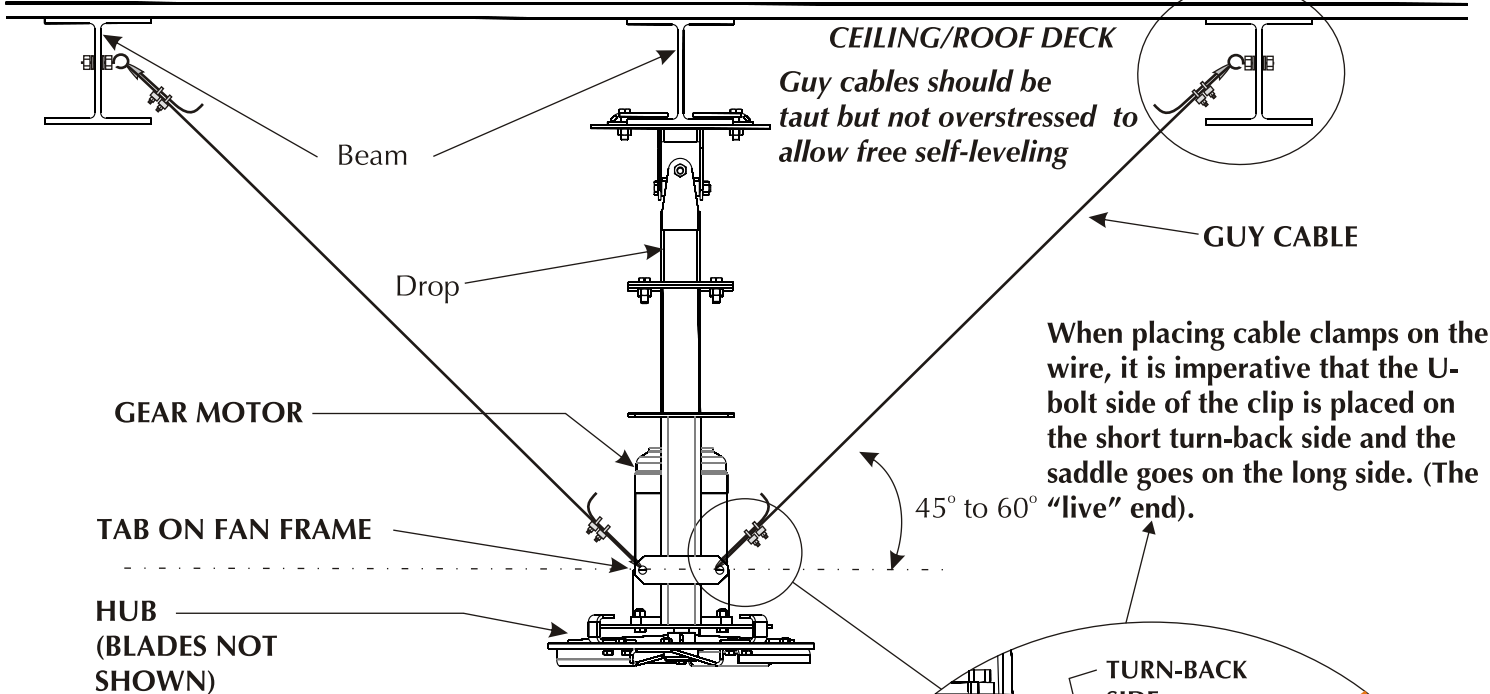
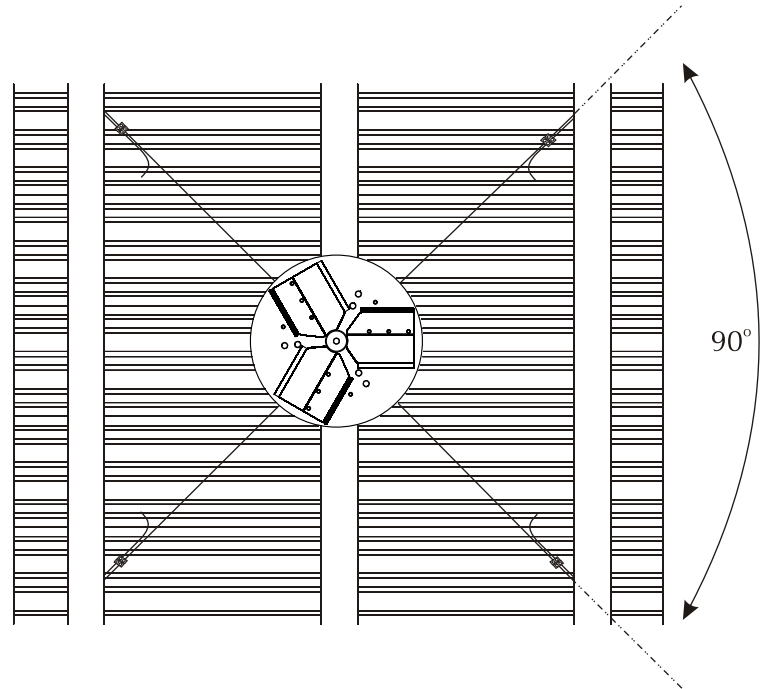

Fig. 15
Fig.17
**STRUCTURAL NOTE:** Guy cables must be installed or fastened to a structural component of the building at the angle shown in Fig.15 and Fig.17.
2. Using a 3/8" wrench, install eye bolt with nuts and washers in I Beam as per Fig.15.
5. Guy wires should be taut but not over-stressed to allow free self-levelling. They should also be approx. 90° apart (Fig.17).